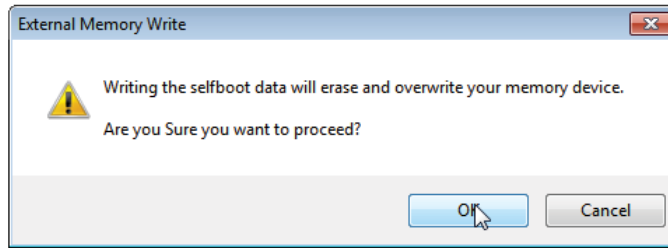

Figure 73. External Memory Erase and Overwrite Warning Window
- A warning dialog box appears to remind the user that executing an external memory write erases and overwrites any data currently stored on the EEPROM (see Figure 73). Click **OK** to proceed.